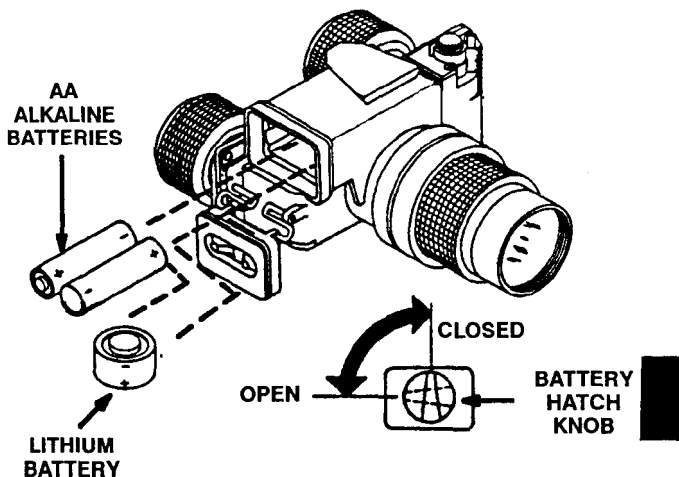

Figure 2-17. AA Alkaline and Lithium Battery Installation.
(1) AA Alkaline Batteries: Open the battery compartment hatch by turning the locking tab a quarter turn counterclockwise. Insert two AA batteries into the holder, one positive end and one negative end first, as shown in Figure 2-17. Close hatch and secure by turning the locking tab a quarter turn clockwise.
(2) Lithium Battery: Open the battery compartment hatch by turning the locking tab a quarter turn counterclockwise. Insert Lithium battery with the button (negative end) up into the holder as shown in Figure 2-17. Close the hatch and secure by turning the locking tab a quarter turn clockwise.